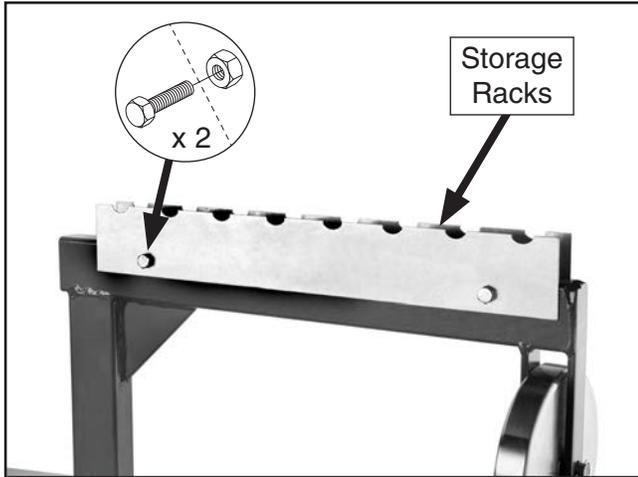

Figure 9. Storage racks installed.
7. Attach the lower wheel storage racks to the frame top with (2) 1/4"-20 x 1 1/4" hex bolts and (2) 1/4"-20 hex nuts (see **Figure 9**).